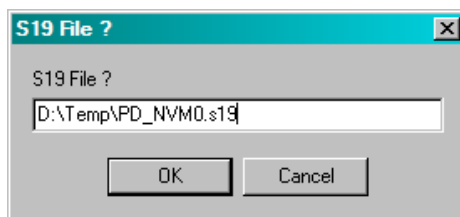

Figure 3-15. S19 File Window
7. As shown in Figure 3-15, use the S19 window to specify which S19 file to store active NVM data to and then click the OK button. The following shows the S19 files for each NVM sector: